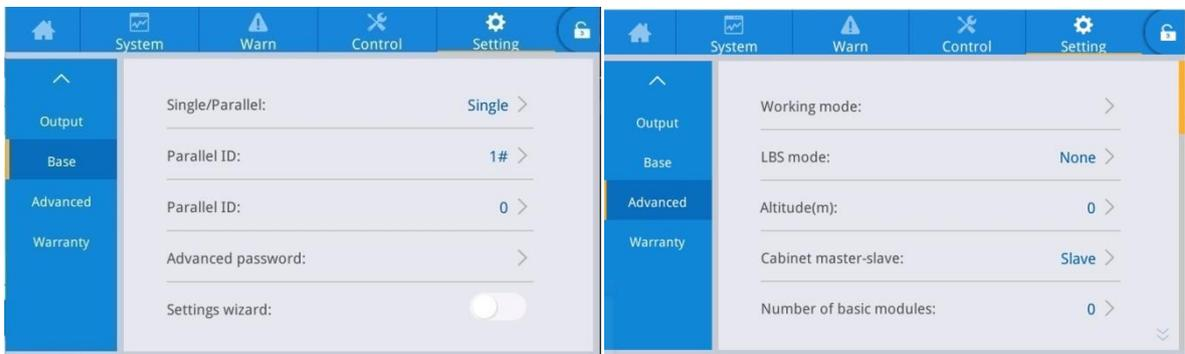

Fig. 4-8 Parallel parameter setting interface
2. Set 1, 2, 3 and 4 in turn in the [cabinet number] of the setting interface of basic parameters. The parallel operation of at most 4 UPSs is supported, as shown in Fig.4-8.
3. Set the number of UPS in the parallel system in [number of system stands] of the basic parameter setting of the setting interface, as shown in Fig. 4-8.
4. Set one UPS of the parallel system as mast and other UPS as the slave in the [rack master-slave setup] of the advanced parameter settings in the settings interface. The master-slave refers to the communication master-slave of the rack, that is to say, one UPS is the host for monitoring communication, and the other UPS are the slave for monitoring communication. The parameters of other UPS can be set on the communication host, and the slave automatically synchronizes the parameters of the master (for the independent battery pack, the battery parameters will not be synchronized), as shown in Fig. 4-8.